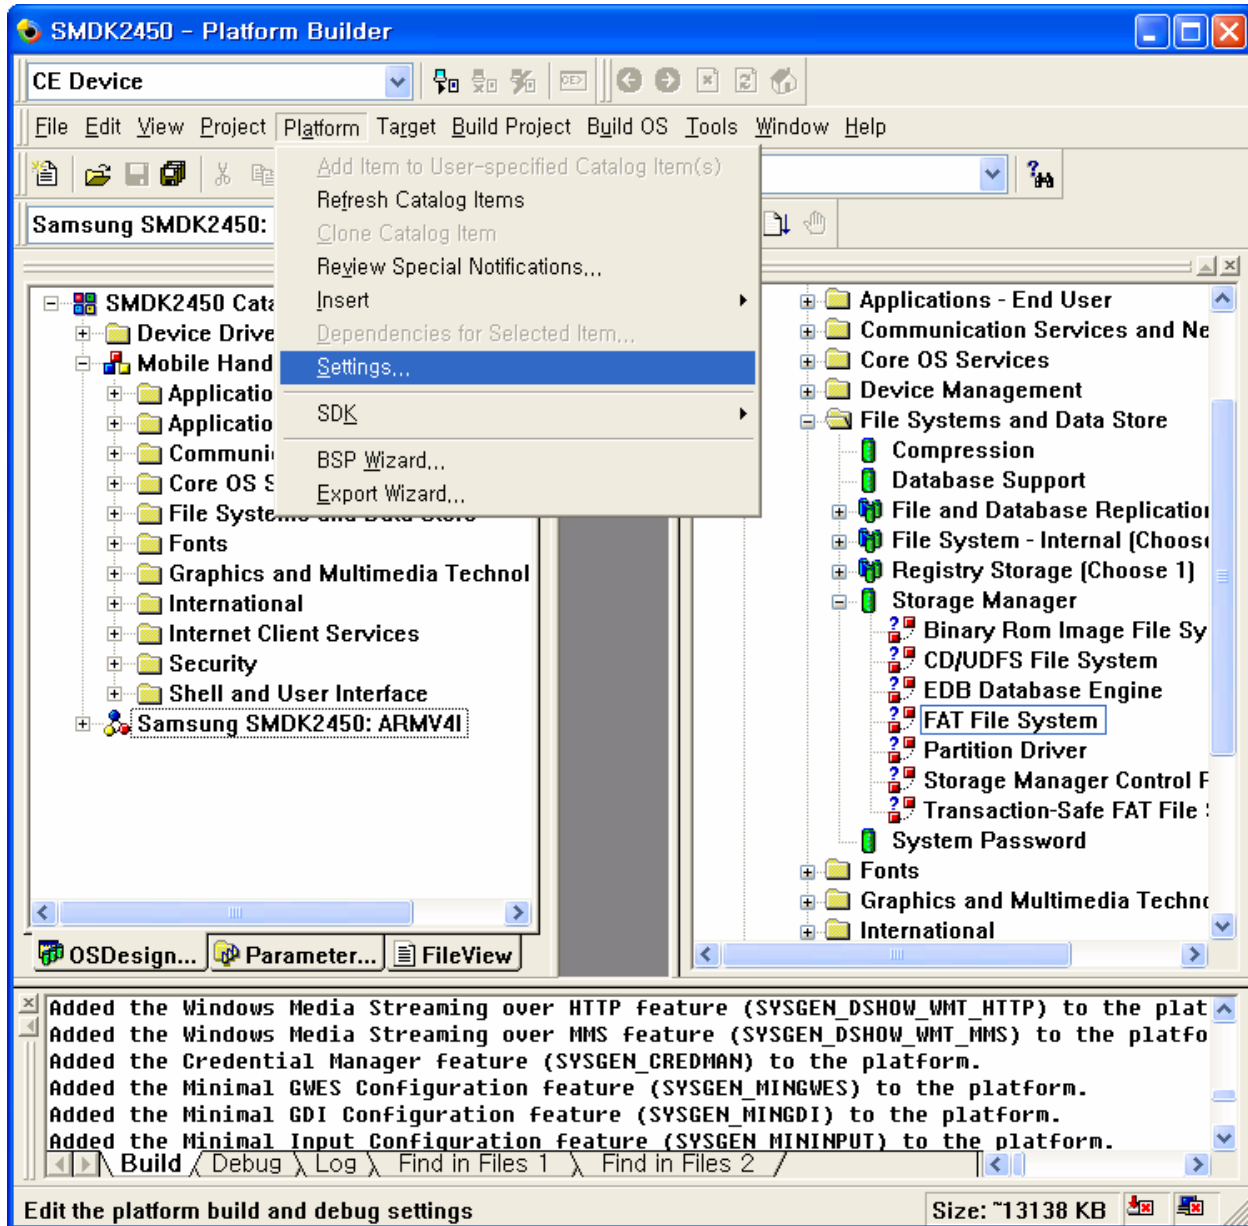

Figure 4-7 Platform Settings
6. On the Platform menu, click Settings... as shown in figure 4-7.